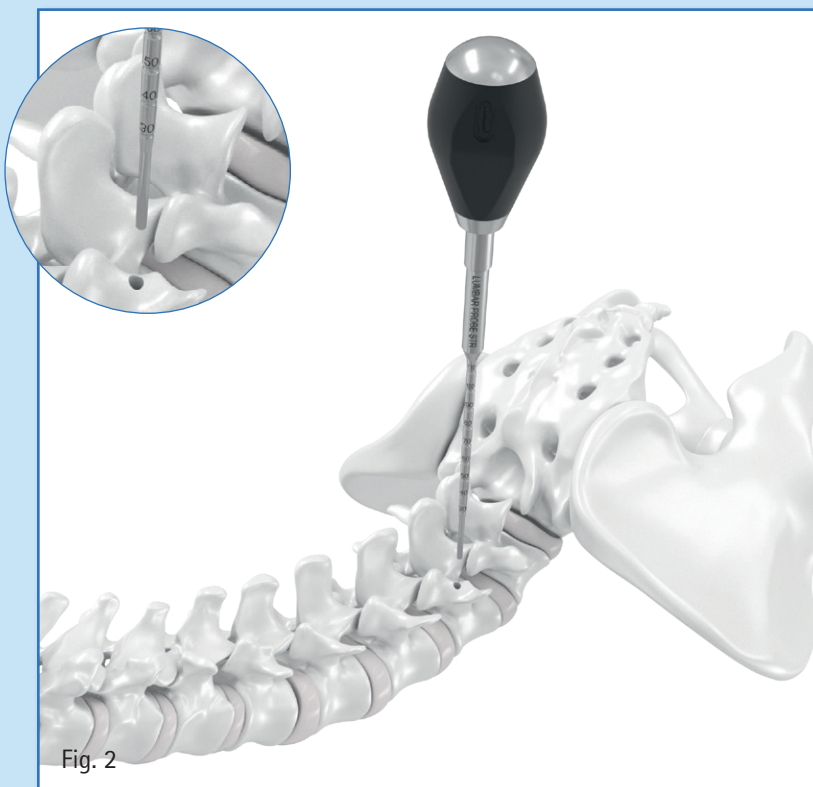

Fig. 2
- The Pedicle Probes are available as straight or curved Lumbar Probes (SZ242R or SZ243R) and straight or curved Thoracic Probes (SZ244R or SZ245R). (Fig. 2)